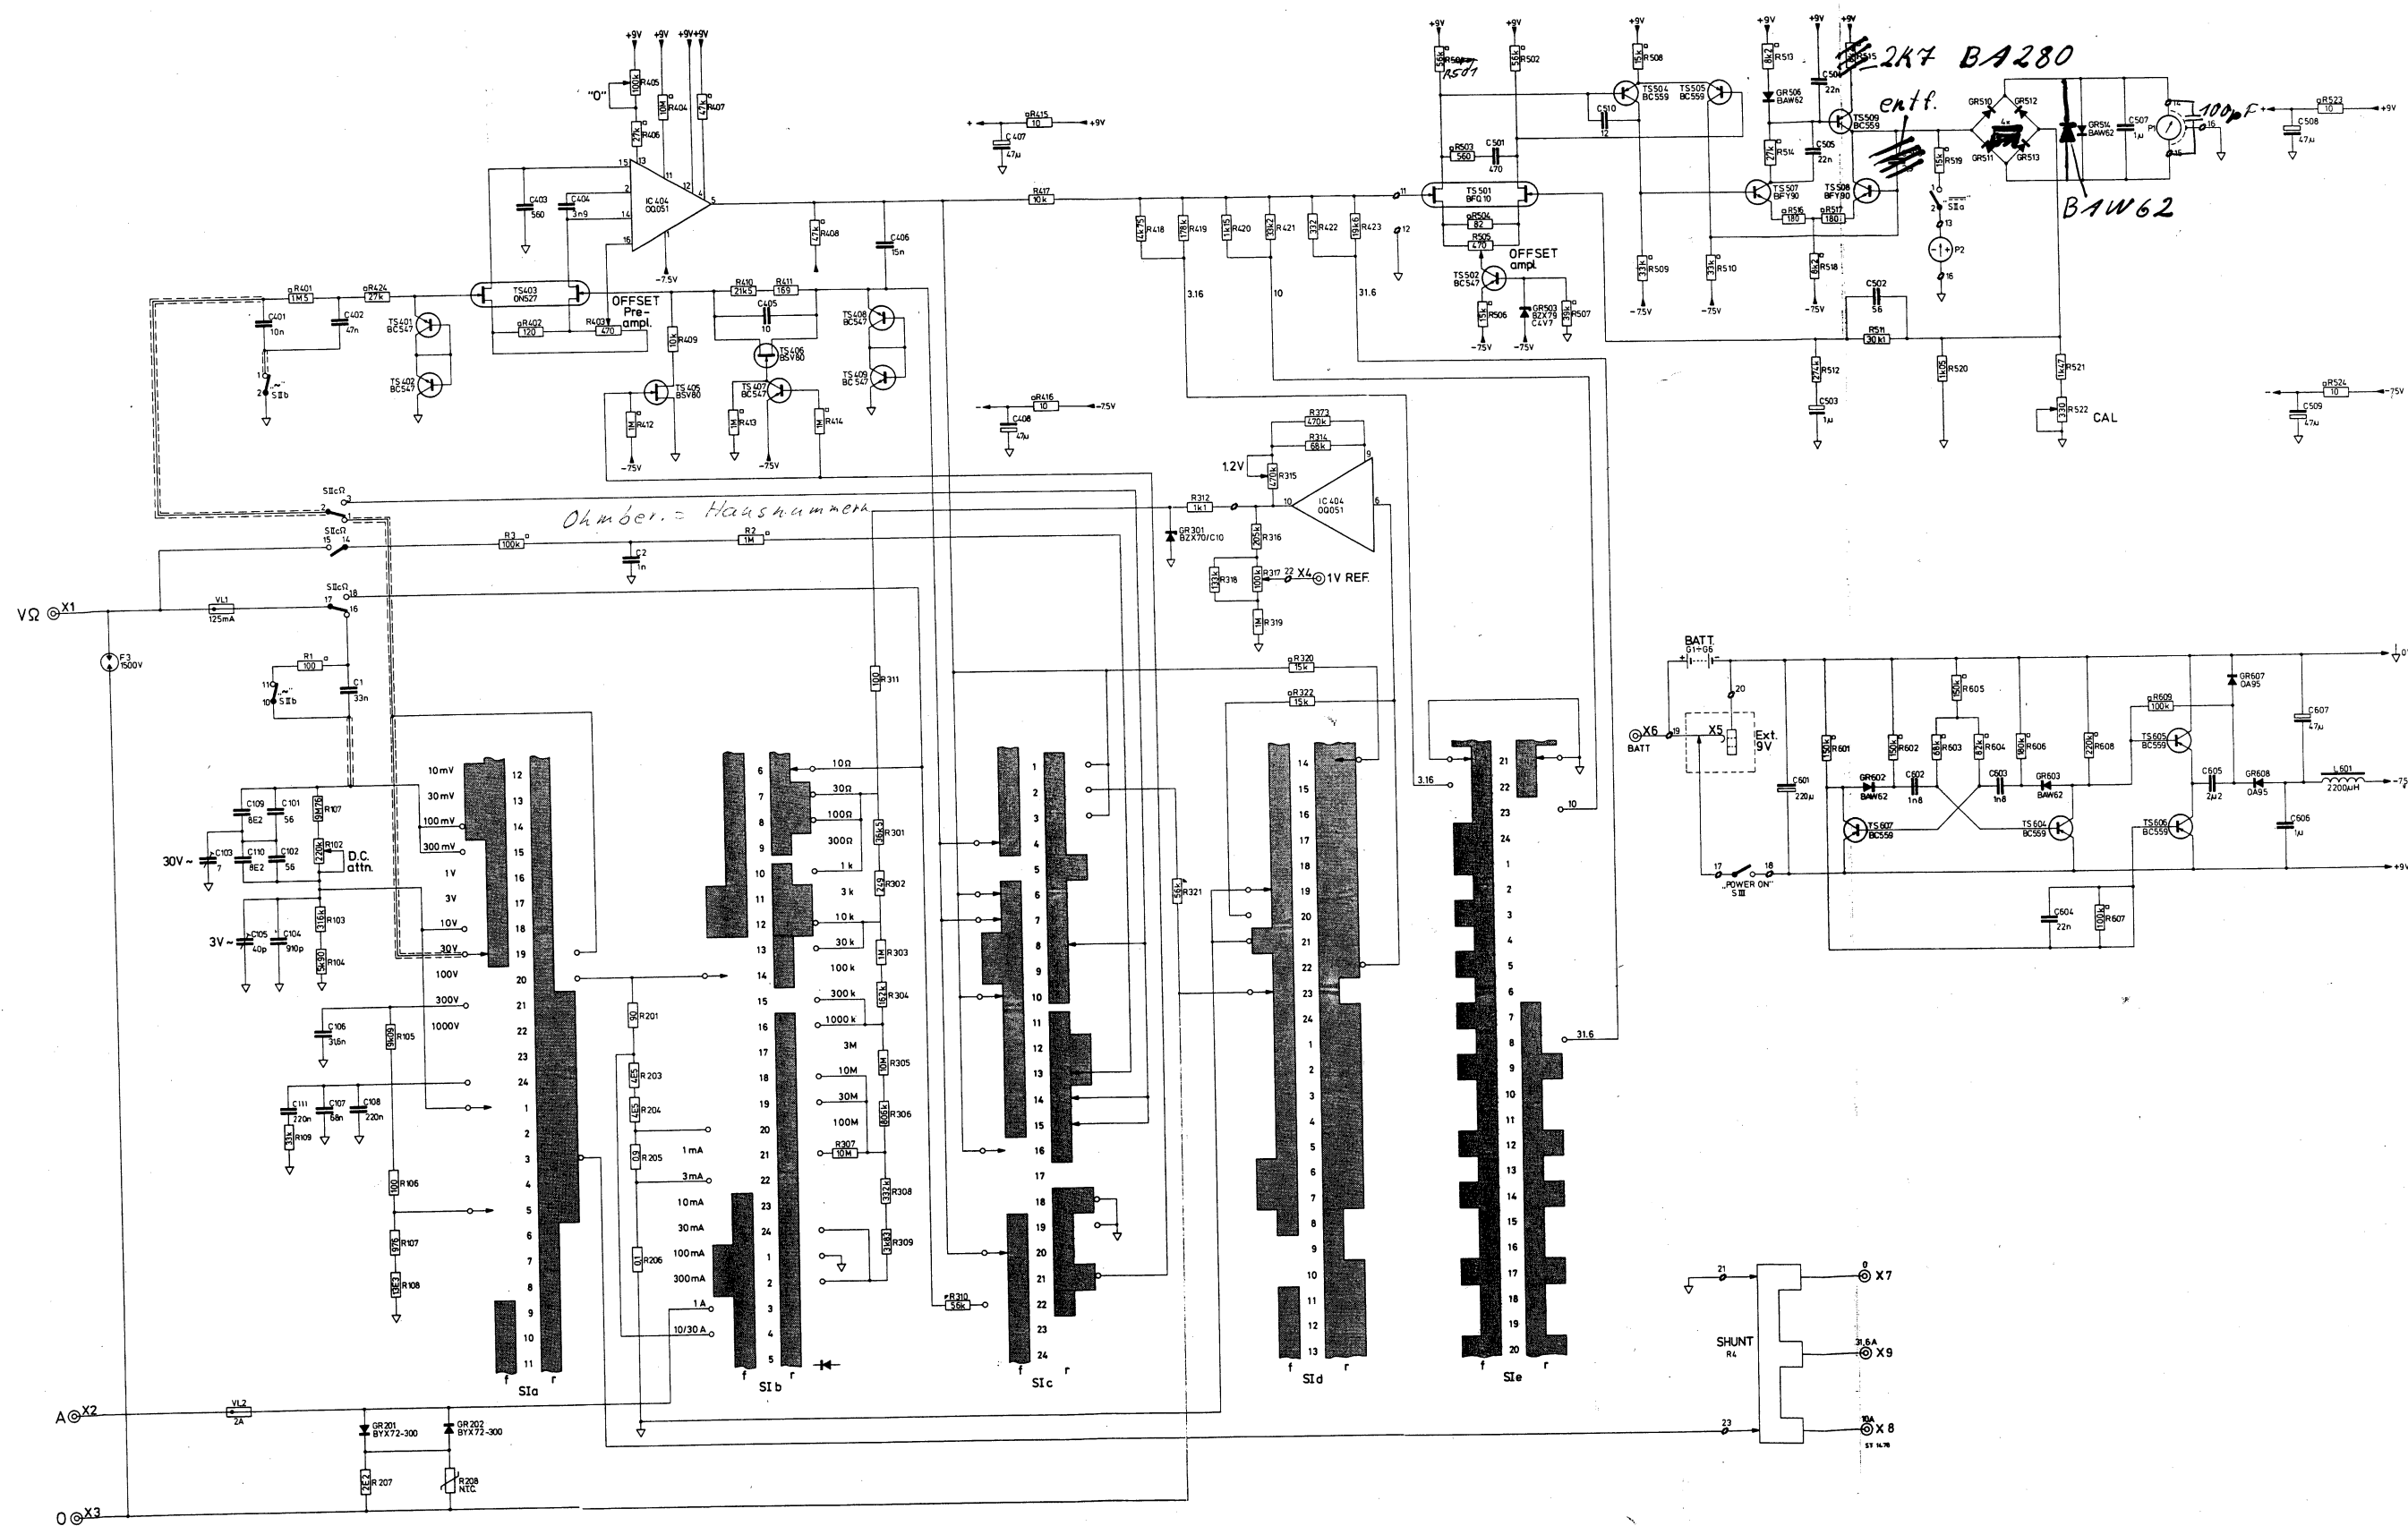

Fig. 32 Circuit diagram PM 2504
- Place the figures 1 and 13 on the corresponding figures of rangeselector S1 in the circuit diagram (Fig. 32). Range selector S1 is switched in position 10 mV.